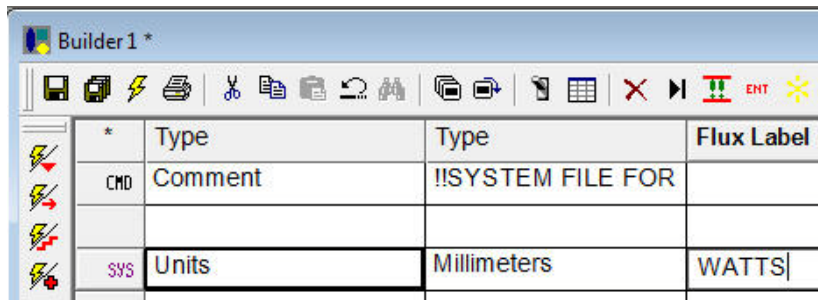

Figure 25 Setting Units as Millimeters, and adding a Flux Label of WATTS
- 16 Type WATTS in the Flux Label column. See Figure 25.